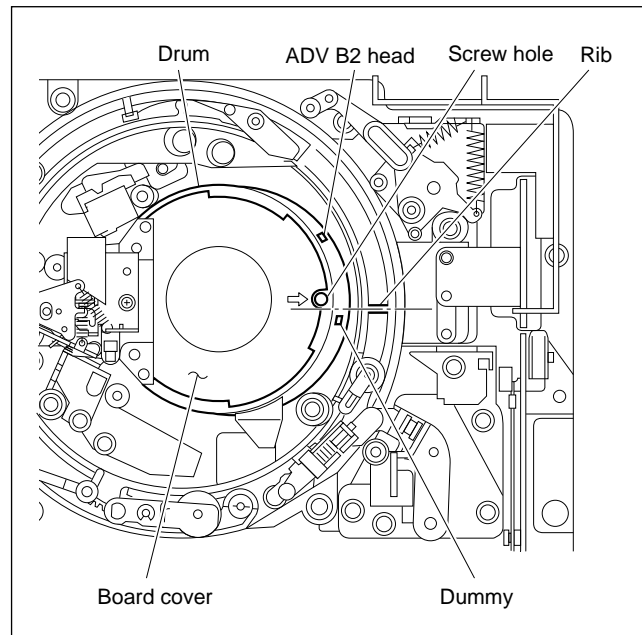

Figure 2. Setting of Drum Position
1. Turn the upper drum manually counterclockwise (↺) to align the screw hole (↔ mark on the board cover) to the rib of the threading ring as shown in Figure 2.
3. Position a probe between the ADV B2 head and dummy head. (Refer to Figure 2.)